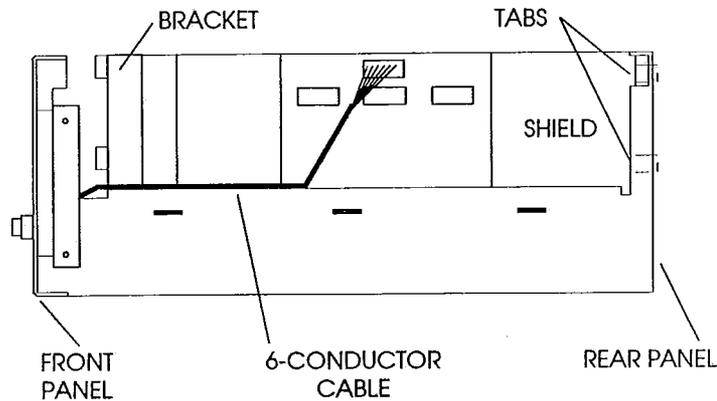

FIGURE 2 R8 SIDE VIEW
4) Route the free end of the 6-conductor VHF converter cable vertically down behind front panel (near Volume Control) to the board assembly exposed by removal of bottom cover. See figure 2.
5) Position the VHF converter assembly into the chassis as illustrated (Figure 2). The board mounted components should face toward the outside edge of the R8 with the larger of the two component side shields toward the rear panel of the R8. Align the two tabs into the slots located on rear panel of the R8. Reposition any cables at rear panel, as necessary, to allow converter assembly to fit at the rear panel wall.